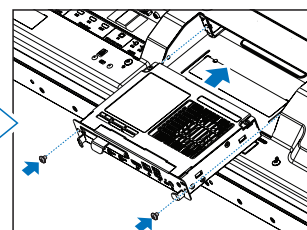

Figure 4
4. Insert the Option Board into the monitor and fix it in place with the removed screws (**Figure 4**).